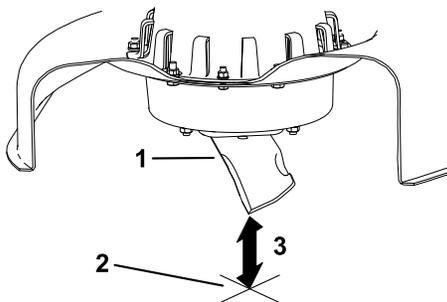

Figure 32
3. Measure from the tip of the blade to the flat surface (Figure 32).